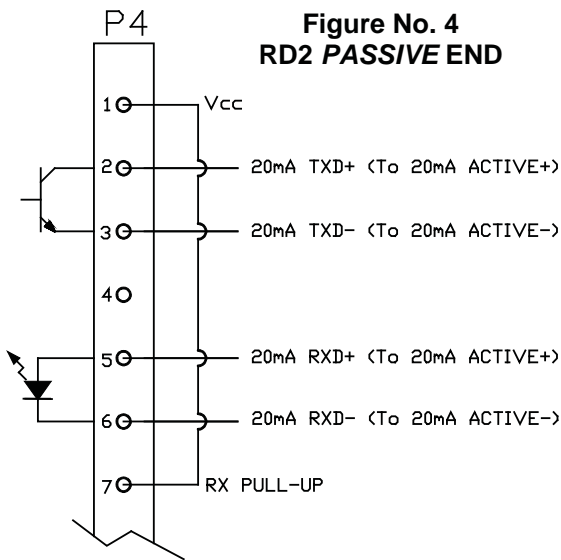

Figure No. 4
2. For *PASSIVE* connections, refer to Figure No. 4, the table below, or the circuit board for the terminal connections and connect each wire to the terminal block.